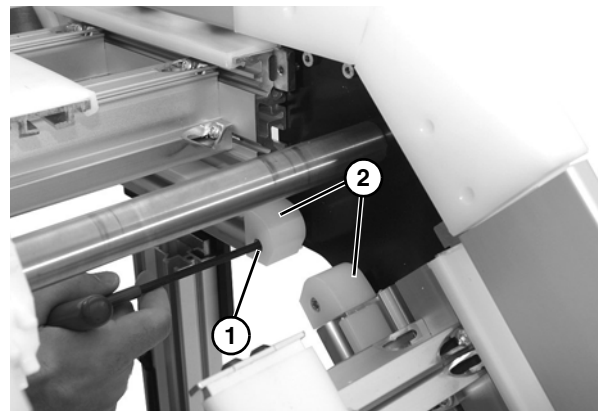

Figure 54
3. Remove socket cap screw (**Figure 54, item 1**) for each belt guide (**Figure 54, item 2**) on side of upper knuckle assembly. Repeat on opposite side.